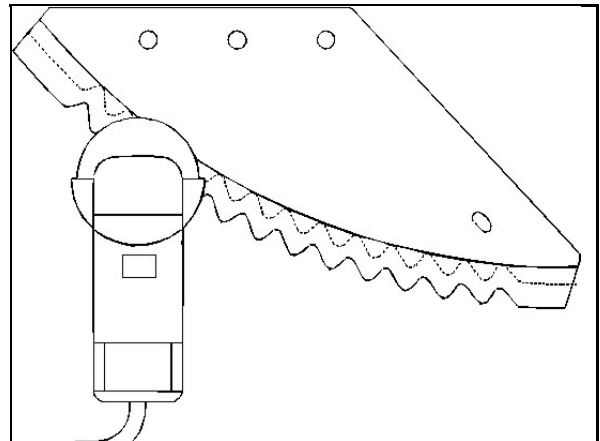

Fig. 44
- Use a right-angle grinder with a flap grinding wheel (Fig. 44) when grinding the cutting knives.